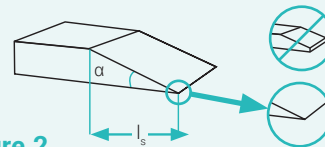

Figure 2
- Unwind around 0.5 m of the sealing tape and cut the end with a sharp knife by using the skive cut technique → length of the skive cut (l_s) = approx. 25 mm, angle $\alpha < 15^\circ$ (figure 2).